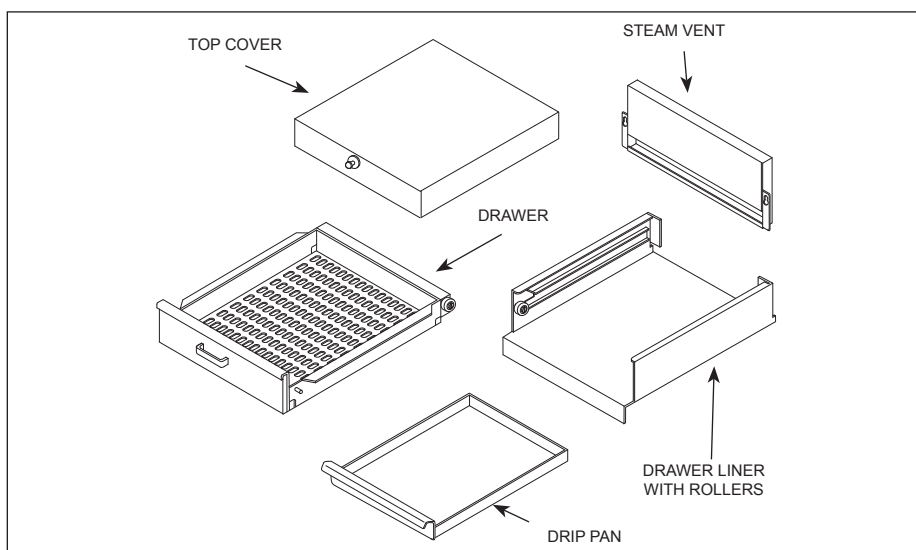

Figure 10. Daily Cleaning-MS-255
**MS-255:** Remove the Drawer, Drawer Liner with Rollers, Drip Pan, Top Cover, and Steam Vent (Figure 10).